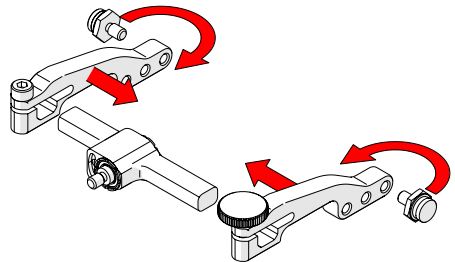

Fig. 95 - Attach arms and move buttons
4. Place the pivot buttons on the inside of the probe holder arms (*Fig. 95*) using a 3/8 in wrench (*Fig. 25*). Slide the arms onto the yoke and tighten the probe holder arm adjustment knob and the arm clamp screw.